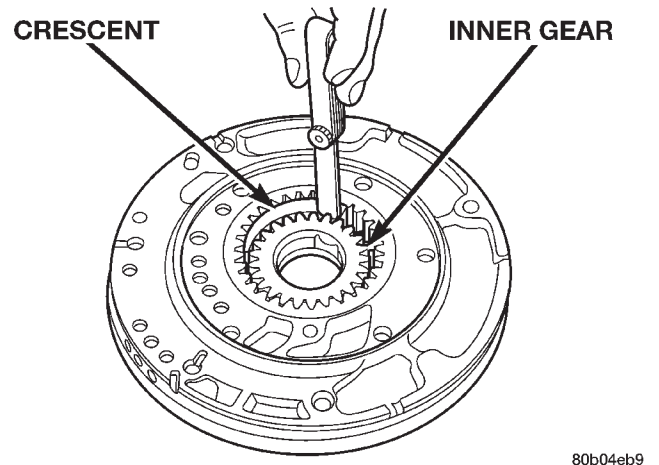

Fig. 90 Measure Inner Gear To Crescent
- (7) Measure the clearance between the inner gear and the pump crescent. Clearance should be 0.020-0.046mm (0.0008-0.0018 in.) (Fig. 90).